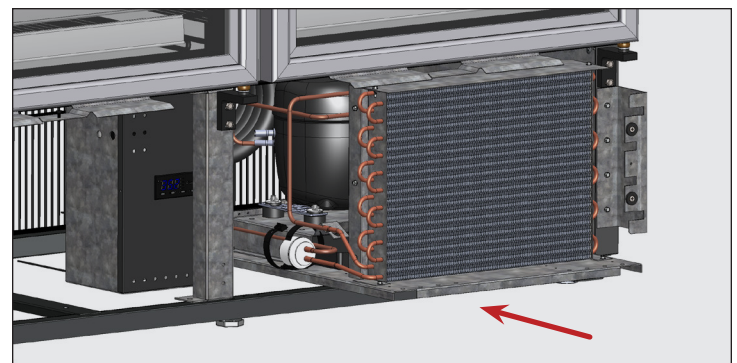

Fig. 8. Carefully slide the condensing unit back into position and reinstall the bolts.
10. Carefully slide the compressor assembly back into position and bolt it in place. See fig. 8.